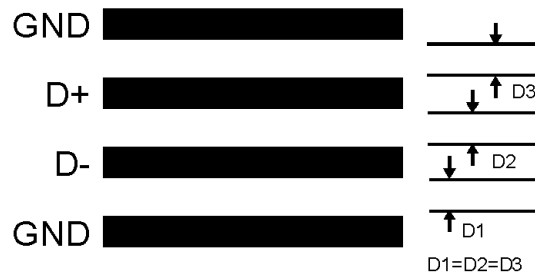

Figure 15. Ideal Diode Trace Layout
4. Diode traces should be surrounded by a GND guard ring to either side, above and below if possible. This GND guard should not be between the D+ and D- lines. In the event that noise does couple to the diode lines it would be ideal if it is coupled common mode. That is equally to the D+ and D- lines. (See Figure 15)